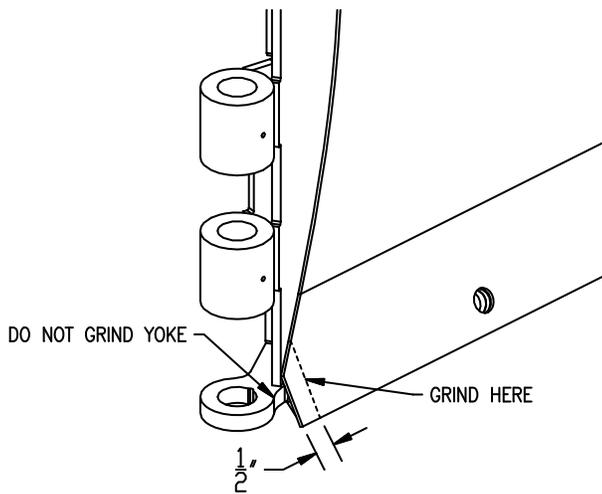

Figure 2. Power-V Blade Grinding
2. Grind $\frac{1}{2}$ " off of the inside corner of both blades. Do not grind blade yoke. See Figure 2.